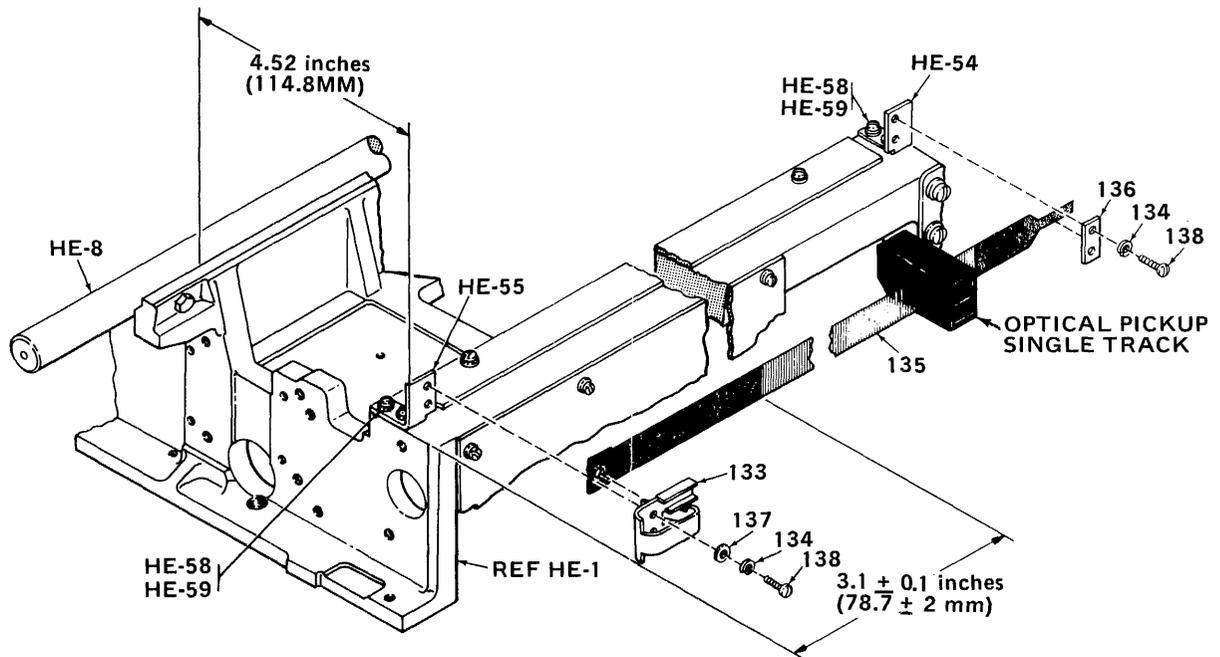

Figure 5-6. FLEXIBLE TIMING FENCE MOUNTING, SERIES 101
3. Flexible Timing Fence (Fig. 8-8/135). The timing fence is used to interrupt light through vertical slots for the optical pickup, single track head (Fig. 8-12/24 and Fig. 5-6).
- A The following removable parts are not described in a disassembly/assembly order, but their locations are on the frame (HE) drawing with their key numbers.
- B. Flexible Timing Fence 63002440-1001 (Fig. 5-6).
1. Carefully remove video amplifier ass'y 63002668-4001 (Section 7) with attached optical pickup head 63002634-5003 (Fig. 5-6) from timing fence (135) by removing screws, washers (Fig. 8-3/55, 56, 57) holding the mounting bracket (See Fig. 8-3/50) to the carriage mechanism.
2. Loosen screws, washers (138,134) holding right-side clamp (136) to bracket (HE-54) on right side of printer frame (HE-1).
3. Unhook left side of flexible timing fence and remove from projection at back of clasp (133). Set timing fence aside.
4. To remove left-side clasp (133), remove two screws, washers (138, 134, 137) from left-side bracket (HE-55).
5. To remove right-side clamp (136), remove two screws, washers (138, 134) from right bracket (HE-54).
- A. Positioning of Suspended Timing Fence (Flexible) for First Character Printout (Fig. 5-6)
1. Loosen screws, washers (138, 134) on right-side clamp (136) and pull right end of tab of fence to the right so that the first window of fence is located  $3.1 \pm 0.1$  inches ( $78.7 \pm 2$  mm) from edge of printer casting (See Illustration, Fig. 5-6). (Note, that this dimension allows for a 5/8-inch nominal printout margin on the printing form).
2. When correct dimension has been applied, secure fence by tightening mounting hardware on the clamp (136).
- B. Establishing Fixed Parallelism for Suspended Timing Fence (Fig. 5-6).
WHEN INSTALLING AND ADJUSTING VIDEO AMPLIFIER ASS'Y WITH MOUNTED OPTICAL HOUSING (FIG. 5-6) WITH RESPECT TO TIMING FENCE, AVOID SCRATCHING OF EMULSION ON TIMING FENCE (SIDE MARKED, "RIGHT").